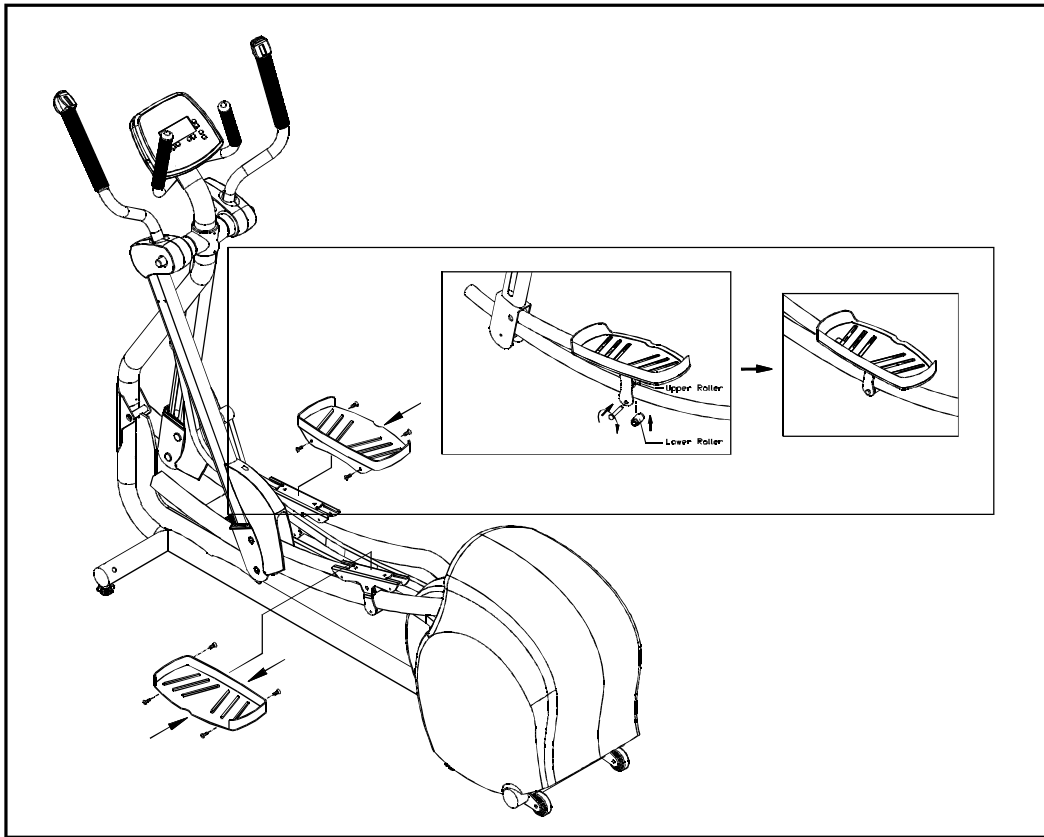

Fig.5
6. Make sure the upper roller is located on the glide rail then fasten the foot pedals with screws. Secure the lower roller with the shaft and fasten the shaft by open-end wrench. (see Fig. 5)